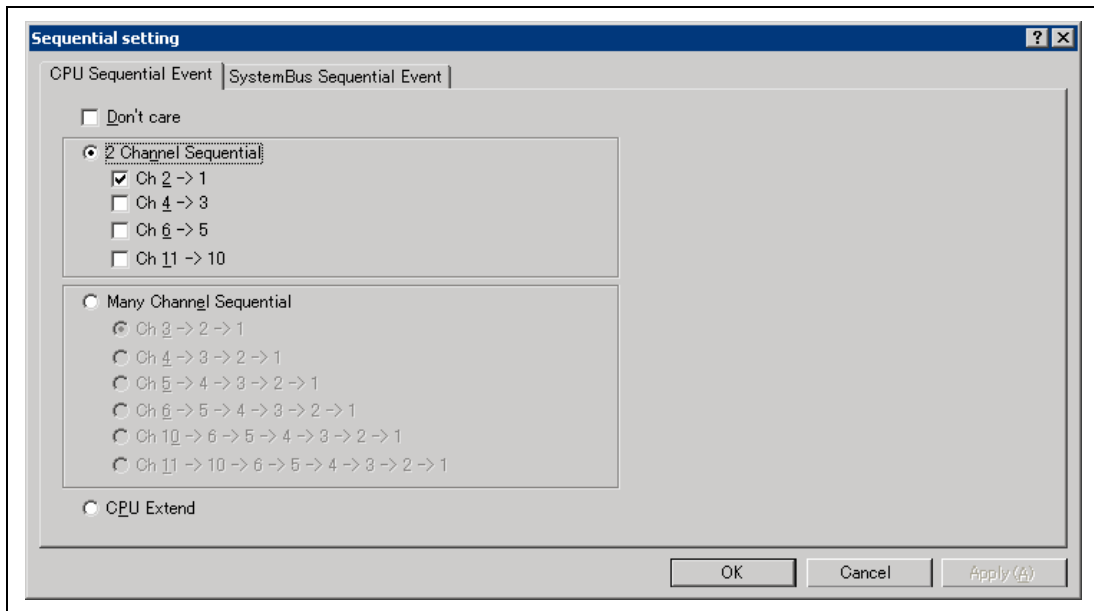

Figure 6.40 [Sequential setting] Dialog Box
- Select [Sequential Setting] from the popup menu by clicking the [Event] window with the right-hand mouse button. The [Sequential setting] dialog box will open (figure 6.40).